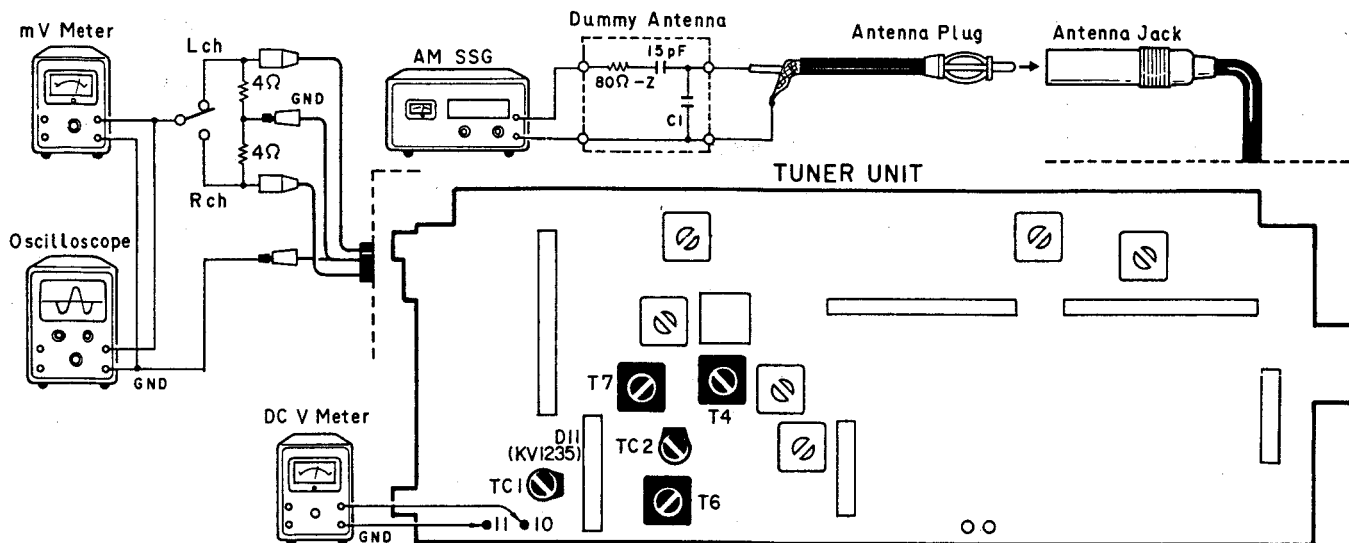

Fig. 25
• Connection Diagram (Shown in Fig. 25)